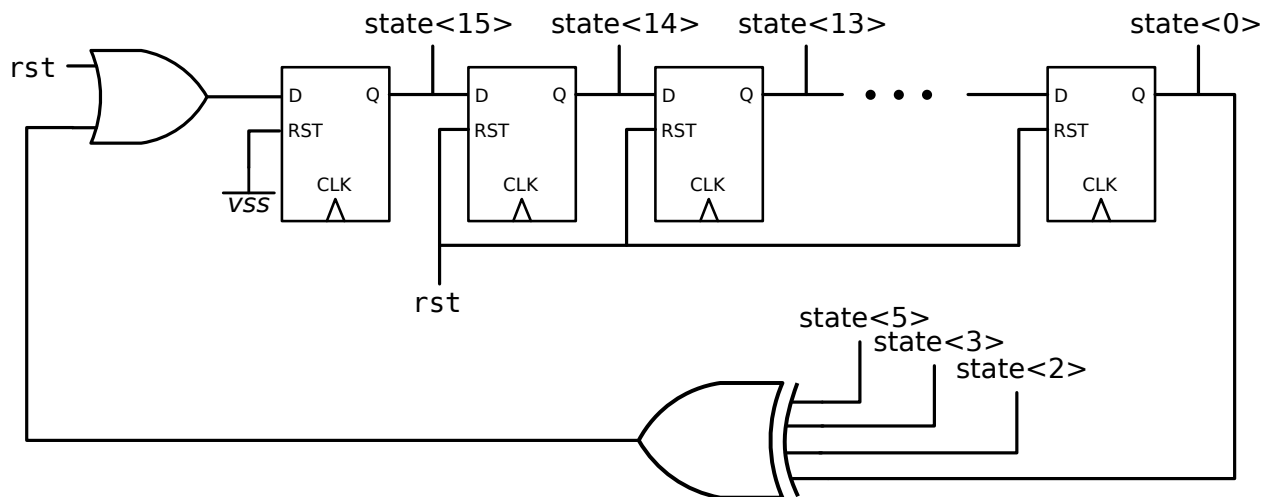

Figure 4
a. Create the schematic for the LFSR in Figure 4. `state<15>` through `state<0>` should be outputs (and the connections from `state<5>`, `state<3>` and `state<2>` to the XOR gate should be made internally). Although not shown, the `clk` input of all flip flops should be driven by a common `clk` input.